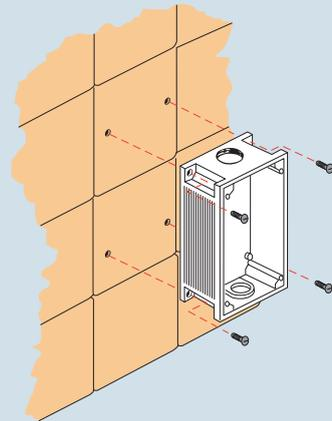

Figure 1 - Example of external mounting using the slots on the box.
- in triple boxes (Figure 1);
(Figure 1)